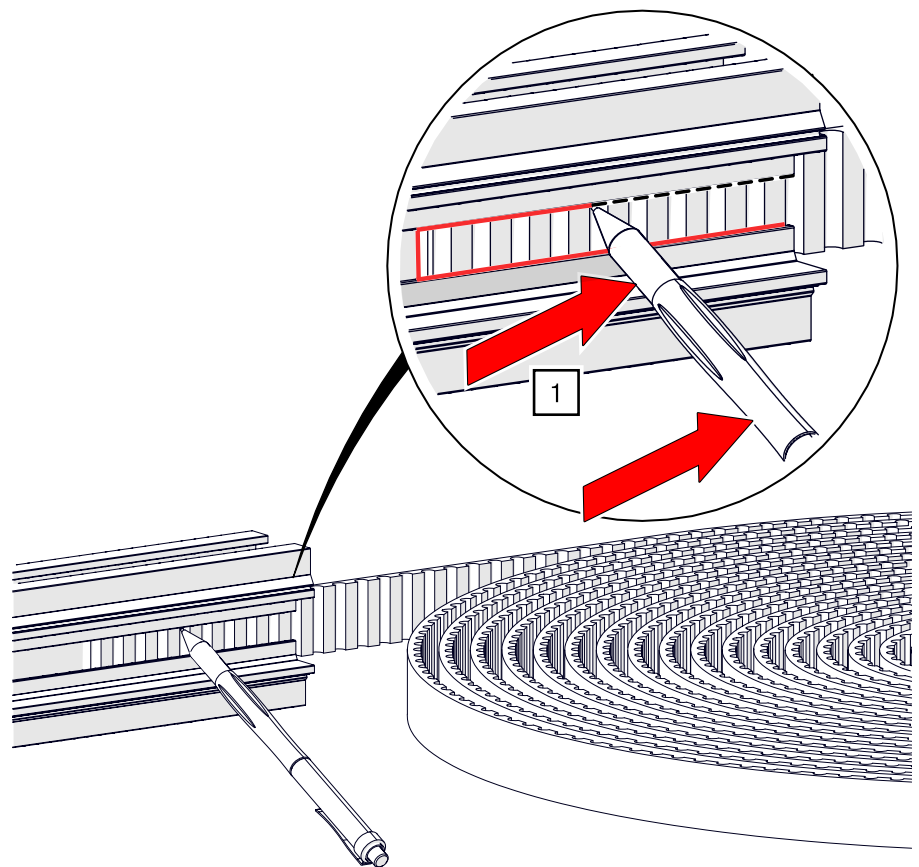

Fig. 75: Cutting timing belt – Mark belt
- Slide one end of the timing belt approx. 70 mm into the track profile (see Fig. 75). Transfer the contour of the exposed profile edges to the timing belt with a suitable pen (see Fig. 75).